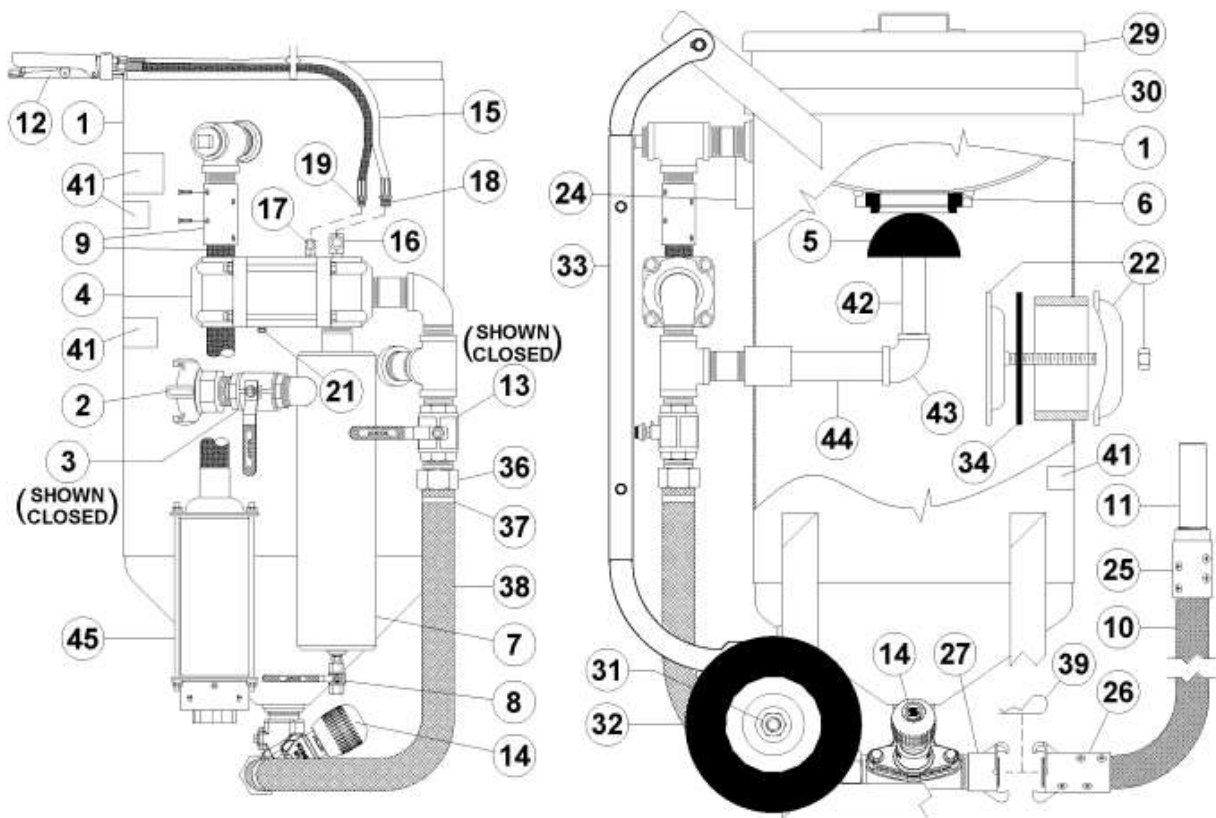

Figure 8.4 – MV3® Valve Abrasive Blaster with pneumatic blast controls
- 8.11. **ComboValve® Blowdown Hose:** The blowdown hose (#9) that passes through the ComboValve (#4) is a 3/4" blast hose. Abrasive carry-over will thin the blowdown hose wall and eventually wear a hole through the hose. Excessive thinning will prevent the ComboValve pinch ram from sealing the exhaust flow and result in equipment malfunction. The abrasive carry-over will also wear the pipe fittings upstream. See Figure 8.4. Depressurize the abrasive blaster per Section 6.2 and check hose condition weekly. Replace as needed. When replacing the blowdown hose (#9) also replace the pipe fittings upstream of the valve. These fittings are the 1-1/4" x 3" VBS® II Restrictor, 1-1/4" tee, and the 1-1/4" pipe plug (see Figure 8.4).